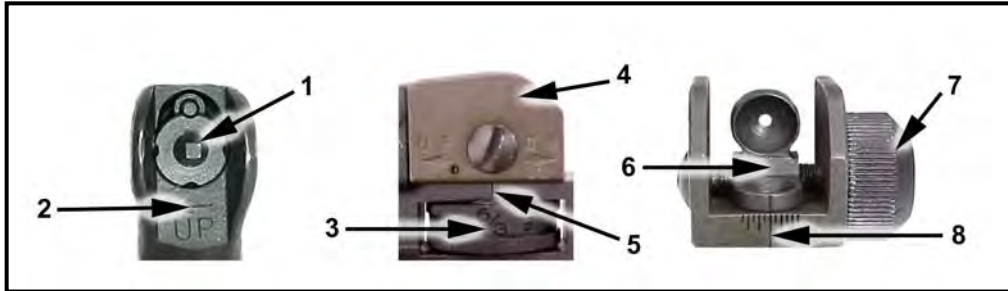

Figure 2-12. M4/M4A1 and M4 MWS mechanical zero.
(1) *Mechanically Zeroing the M4/M4A1 and M4 MWS.* Mechanically zeroing the weapon is only necessary when the weapon zero is questionable, the weapon is newly assigned to the unit, or the weapon sights have been serviced. If necessary, the soldier should mechanically zero the weapon as follows (Figure 2-12, page 2-8):